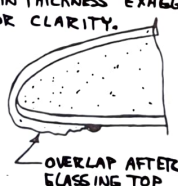

FIG. 58
CZ 4-2 Don't start glassing unless you and your assistant can stay with it for the next several hours. You are ready to glass the top spar and top skins. This operation is done exactly like step 4, with two exceptions: (1) The top cap is thicker, requiring more folds until there are 19 thicknesses in the center, rather than 13. This requires two pieces of UND. (2) An extra skin ply of UND goes over the top. Everything else is the same. A careful scissor trim is made along the leading edge so that the four top skin plies overlap the bottom skin 2 inches (Fig. 58). The overlap will be faired in by sanding after it is fully cured (Fig. 59). Be sure to use micro slurry on the bare foam and plain epoxy on the leading and trailing edges and the spar cap before the first skin ply.